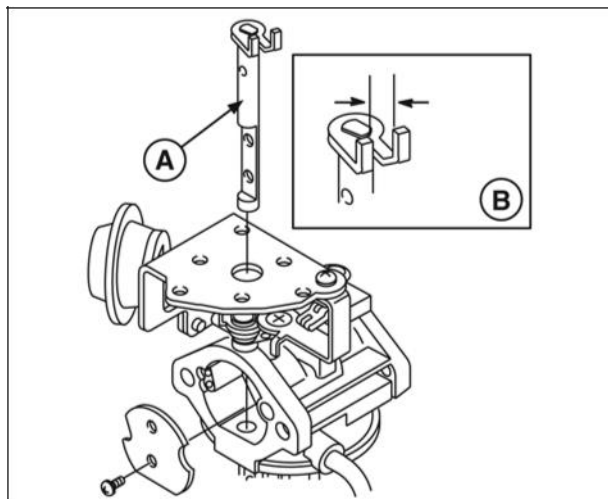

Figure 44
5. Install choke shaft through pivot arm bushing and into carburetor body (Figure 44).